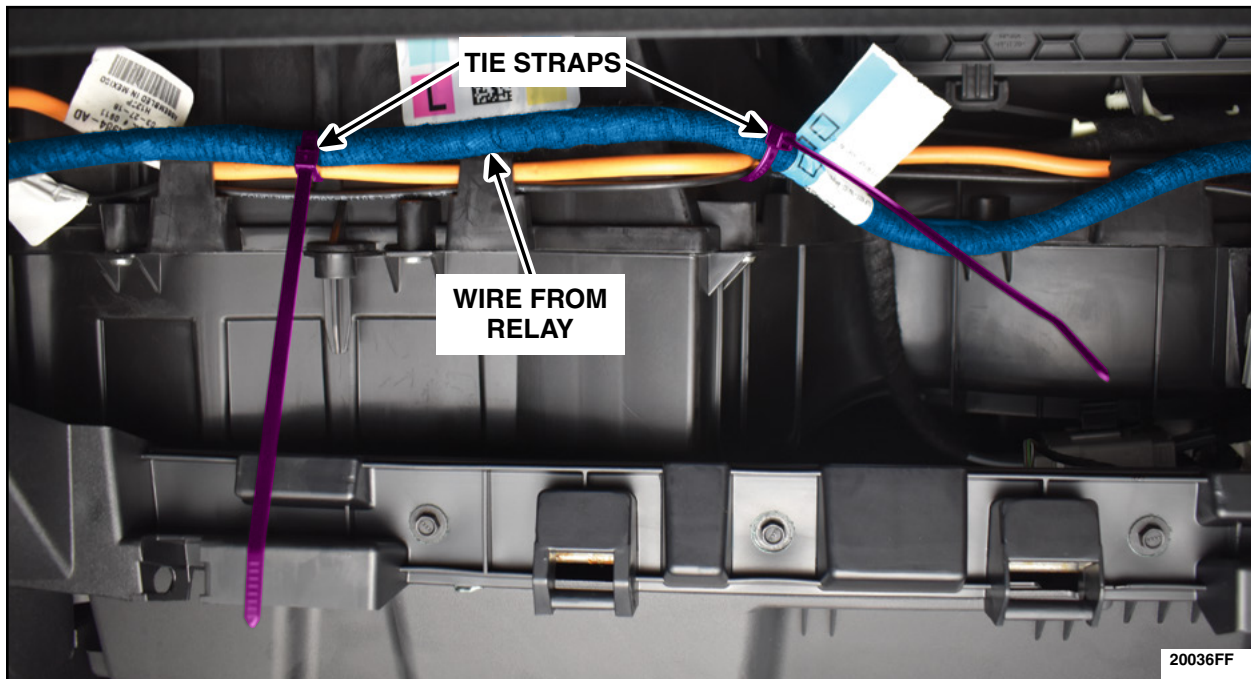

FIGURE 34
52. Secure the wire from the relay to the wiring harness on the climate control housing using tie straps. See Figure 34.